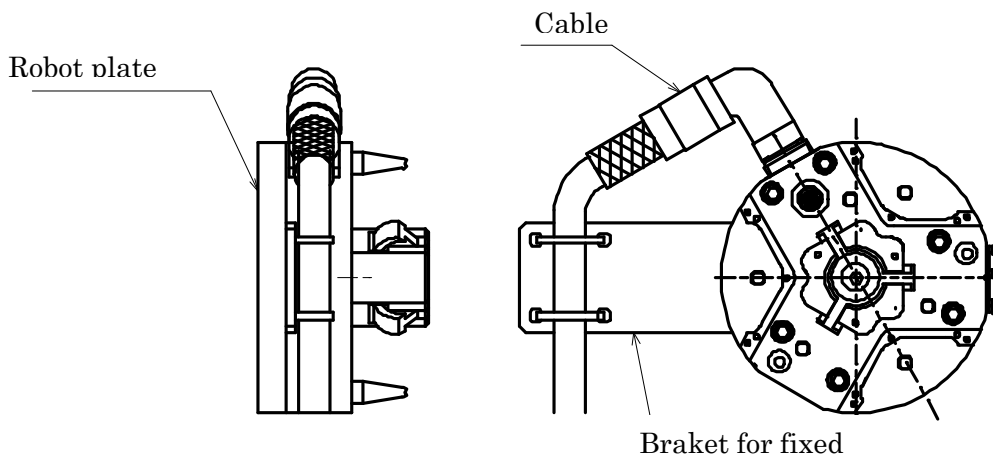

Fig. 5. An example of cable fixing
- ⚠ CAUTION** Robot side cables must be securely tied together with other cables and tubes and fixed around the robot adaptor's connector part by using a spiral tube or banding band, etc. Also ensure that cables and tubes are free of any excessive force while the robot's wrist axis is rotating. Excessive force applied onto cables and tubes may break a connector of the joint part and an electric module, etc. or cause open-circuit. It may also cause any electric shock hazard and sparking. An example of cable fixing by a bracket is shown in Fig. 5.